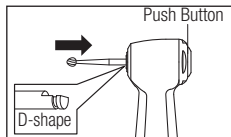

Fig. 2
- 1) Insert the bur until it is correctly seated in place. (Fig.2)